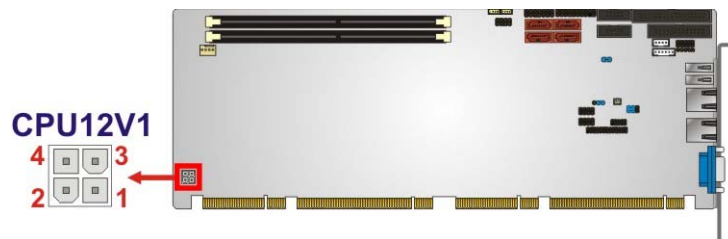

Figure 3-4: ATX Power Connector Pinout Location
- CN Location:** See **Figure 3-4**